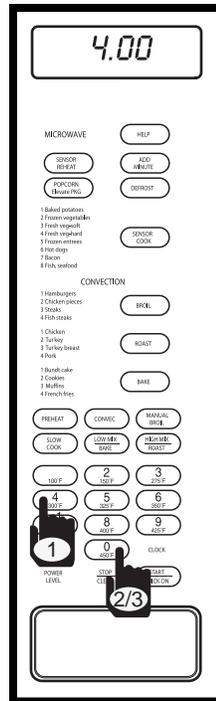

Figure 3-36.
1. Enter desired defrost time duration. For example: 4 minutes; press the number 4 key, and number 0 key twice (See Figure 3-36), the display will flash “4.00 - PRESS - START - OR - PRESS - POWER - LEVEL”.